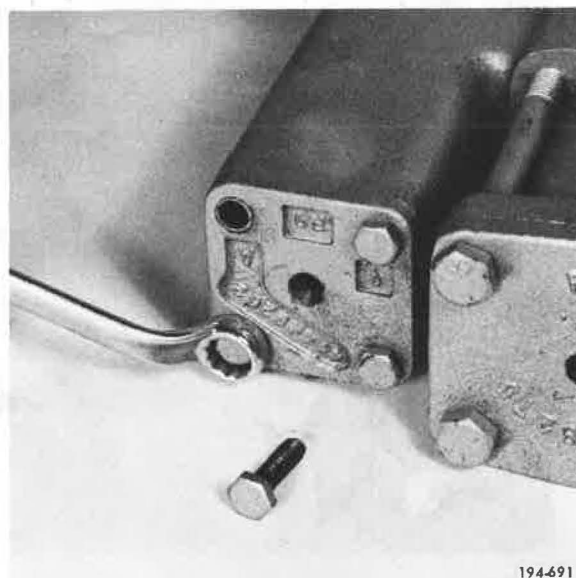

Figure 251. Installing Capscrews
22. Install reverse shift cover capscrews, and tighten to 81 to 101 lb. in. torque. Refer to Torque and Tolerance Table, Item 17. See Figure 251.